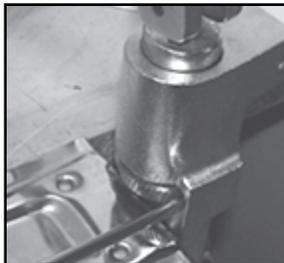

Figure 11
6. Position screwdriver on the left of the gear. (Figure 11)